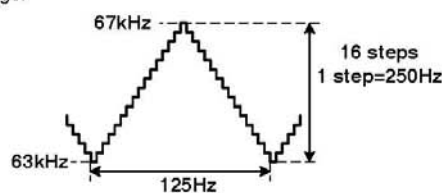

Figure 20. Frequency Modulation
The oscillator frequency is set internally and a frequency modulation (FM) function reduces EMI. The average frequency is 65kHz and the modulation frequency is ± 2 kHz. The frequency varies from 63kHz to 67kHz with 16 steps. The frequency step is 250Hz and FM frequency is 125Hz, as shown in Fig. 20.